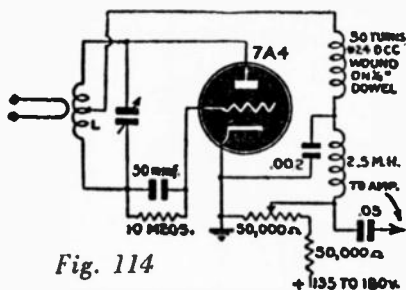

Fig. 114
A. The diagram in Fig. 114 calls for only one tube, and may be hooked up to any amplifier you have—or to your own radio—for its audio amplification.